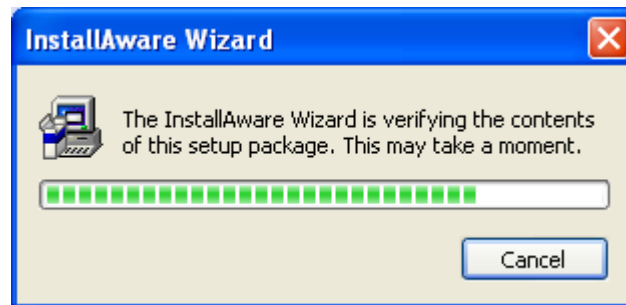

Figure 67 - InstallAware Wizard Verification Window
2. If the MatrikonOPC InstallAware screen does not automatically appear, double-click the installation .exe file. The **MatrikonOPC Server – InstallAware Wizard** verifies its contents (Figure 67).